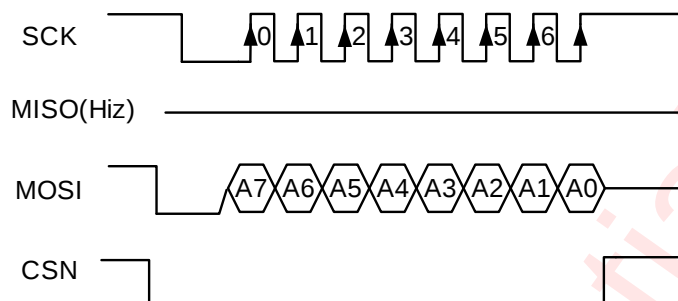

Figure 26 SPI Phase
1. Write 0xFF06 to DAh register by address automatic increment write shown in Figure26